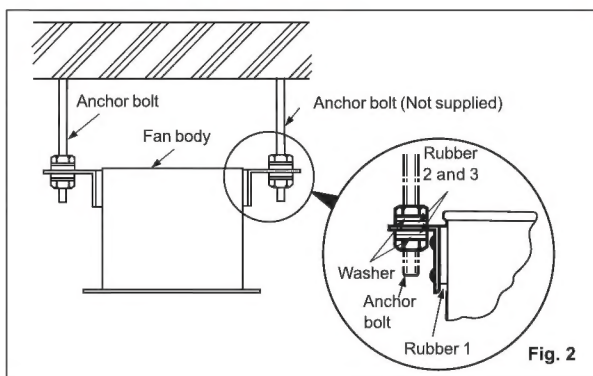

Fig. 2
3. Suspend body with anchor bolts. (not supplied) (Fig. 2)